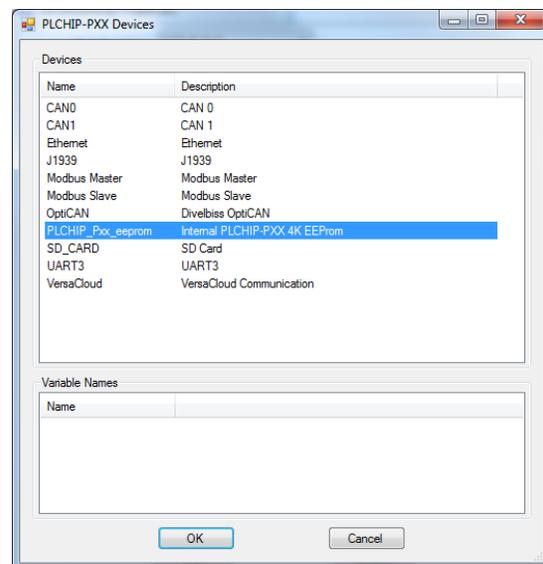

Figure 2-30 - PLCHIP-PXX Devices - EEPROM
4. Click the **PLCHIP_Pxx_eeprom** device (highlight). Refer to Figure 2-30.